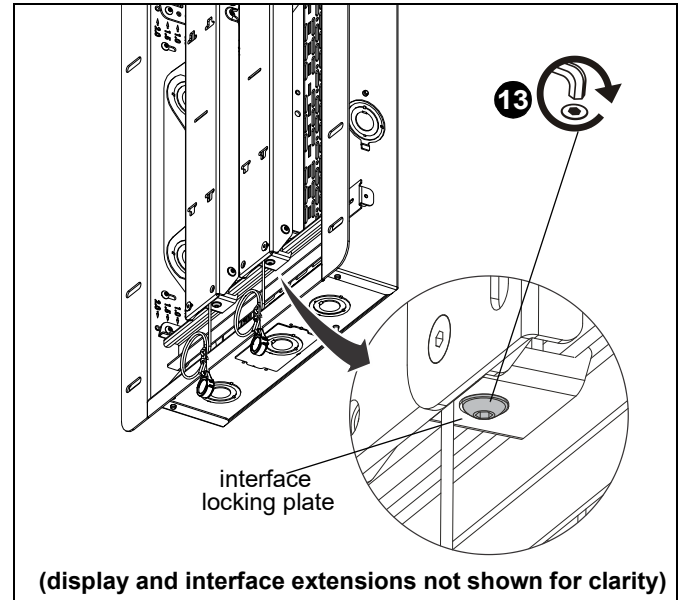

Figure 25
13. Tighten screws that were loosened in Step 9 until interface rail hook is secured under lower rail on both interface brackets. (See Figure 25)